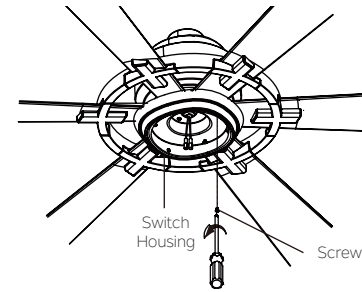

Fig. 21
Step 1. Remove one of three screws on the switch housing and keep for later use, loose the other two (do not remove). (Fig. 21)